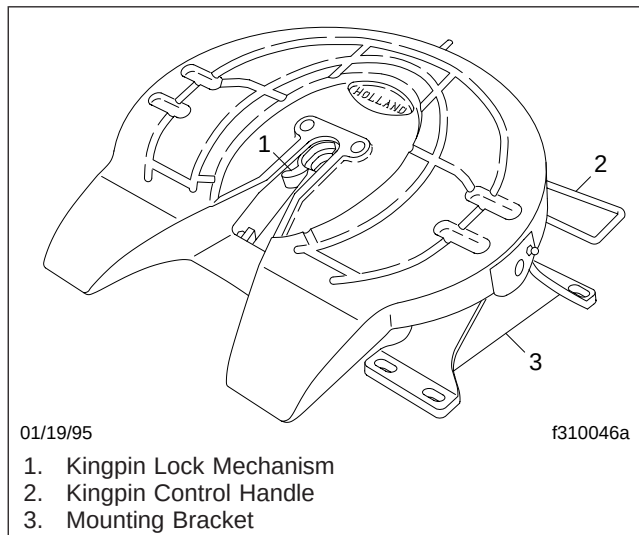

Fig. 10.1, Holland Fifth Wheel
The 2535 sliding fifth wheel models incorporate a Model 3500 fifth wheel (**Fig. 10.1**), equipped with either an air-operated release slide, or a manual release slide. Sliding fifth wheel assemblies are mounted on a baseplate which permits forward and rear movement along notched rails. Plungers are meshed into teeth on the baseplate to lock the sliding mechanism. Disengagement of the sliding member is accomplished when the plungers are withdrawn (manually or air-operated), releasing the fifth wheel assembly so that it can be positioned for optimum weight distribution over the tractor axes.
6. Release the kingpin locking mechanism by pulling the kingpin lock control handle (**Fig. 10.1**) to the outward position.